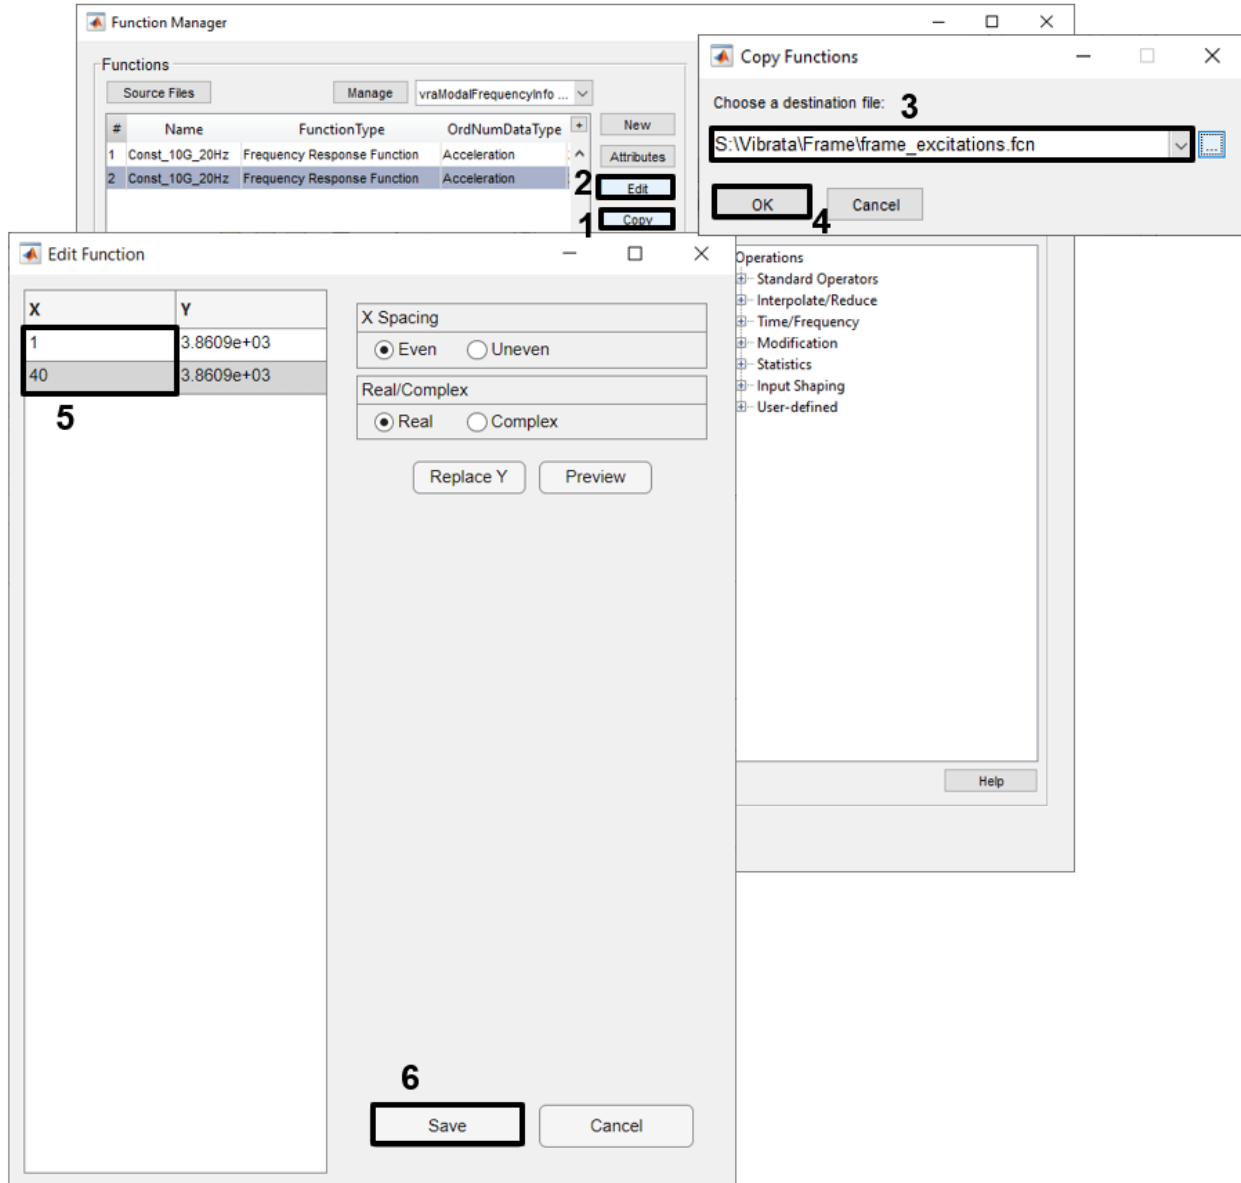

Figure 4-28. Change the copied function to have a range from 1 to 40 Hz.
- b. Select the original function and click **Copy**. Store the new function to a new function file in the *frame* folder; call it "frame\_excitations.fcn." Select the new function and click the **Edit** button. On the *Edit Function* dialog, change the second X-value from 30 to 40 and click **Save** (Figure 4-28).